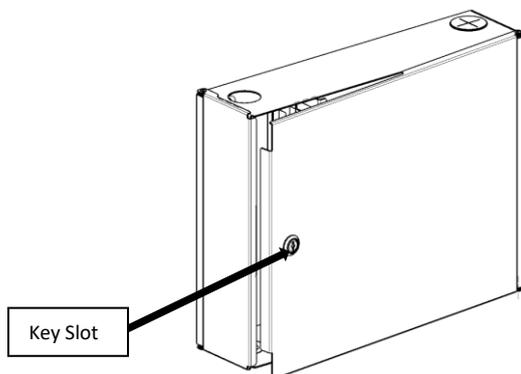

Fig.1
- Open the Locked Door by using lock key (Fig.1). (key is not shown in the below image but its packed along with enclosure)